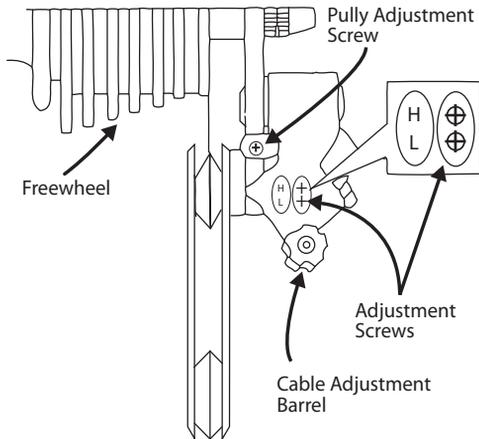

Fig. 52: Rear derailleur parts. View from the rear.
6. Cable tension is adjusted by turning the Cable Adjusting Barrel, which is located at the junction of the cable and the shifter or rear derailleur (Fig. 52). To increase tension, turn the knurled knob counterclockwise, to decrease tension, turn the knob clockwise. Turn until the problem is corrected.